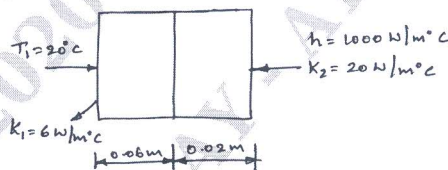

Fig.Q7(b)
b. Determine the temperature distribution through the composite wall subjected to convection heat loss on the right side surface with convective heat transfer co-efficient as shown in Fig.Q7(b). The ambient temperature is -5°C .